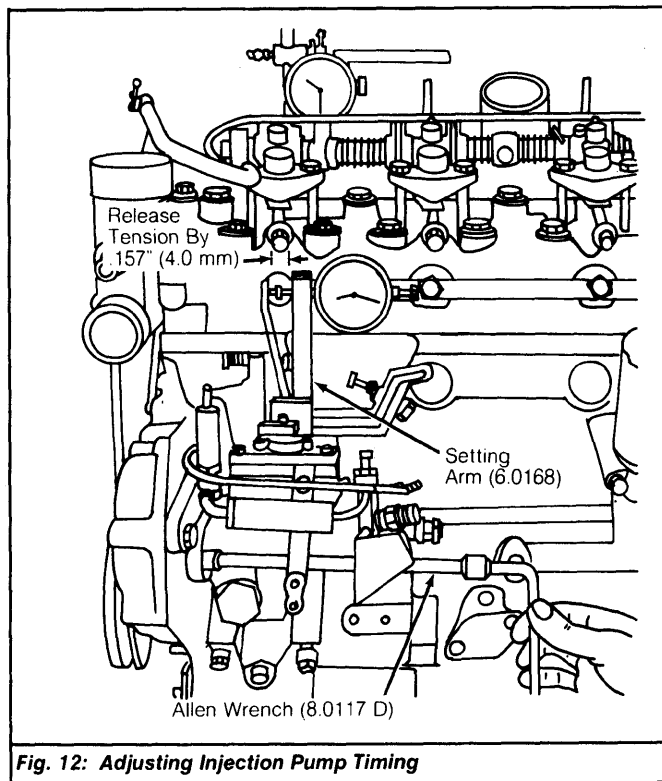

Fig. 12: Adjusting Injection Pump Timing
3) Release tension on Setting Arm (6.0168) by .157" (4.0 mm). Loosen intermediate pump flange (2 Allen screws) by using Allen Wrench (8.0117 D). See Fig. 12. Swivel pump around it's axis until dial indicator reading corresponds with pump being installed. See INJECTION PUMP SETTING table.